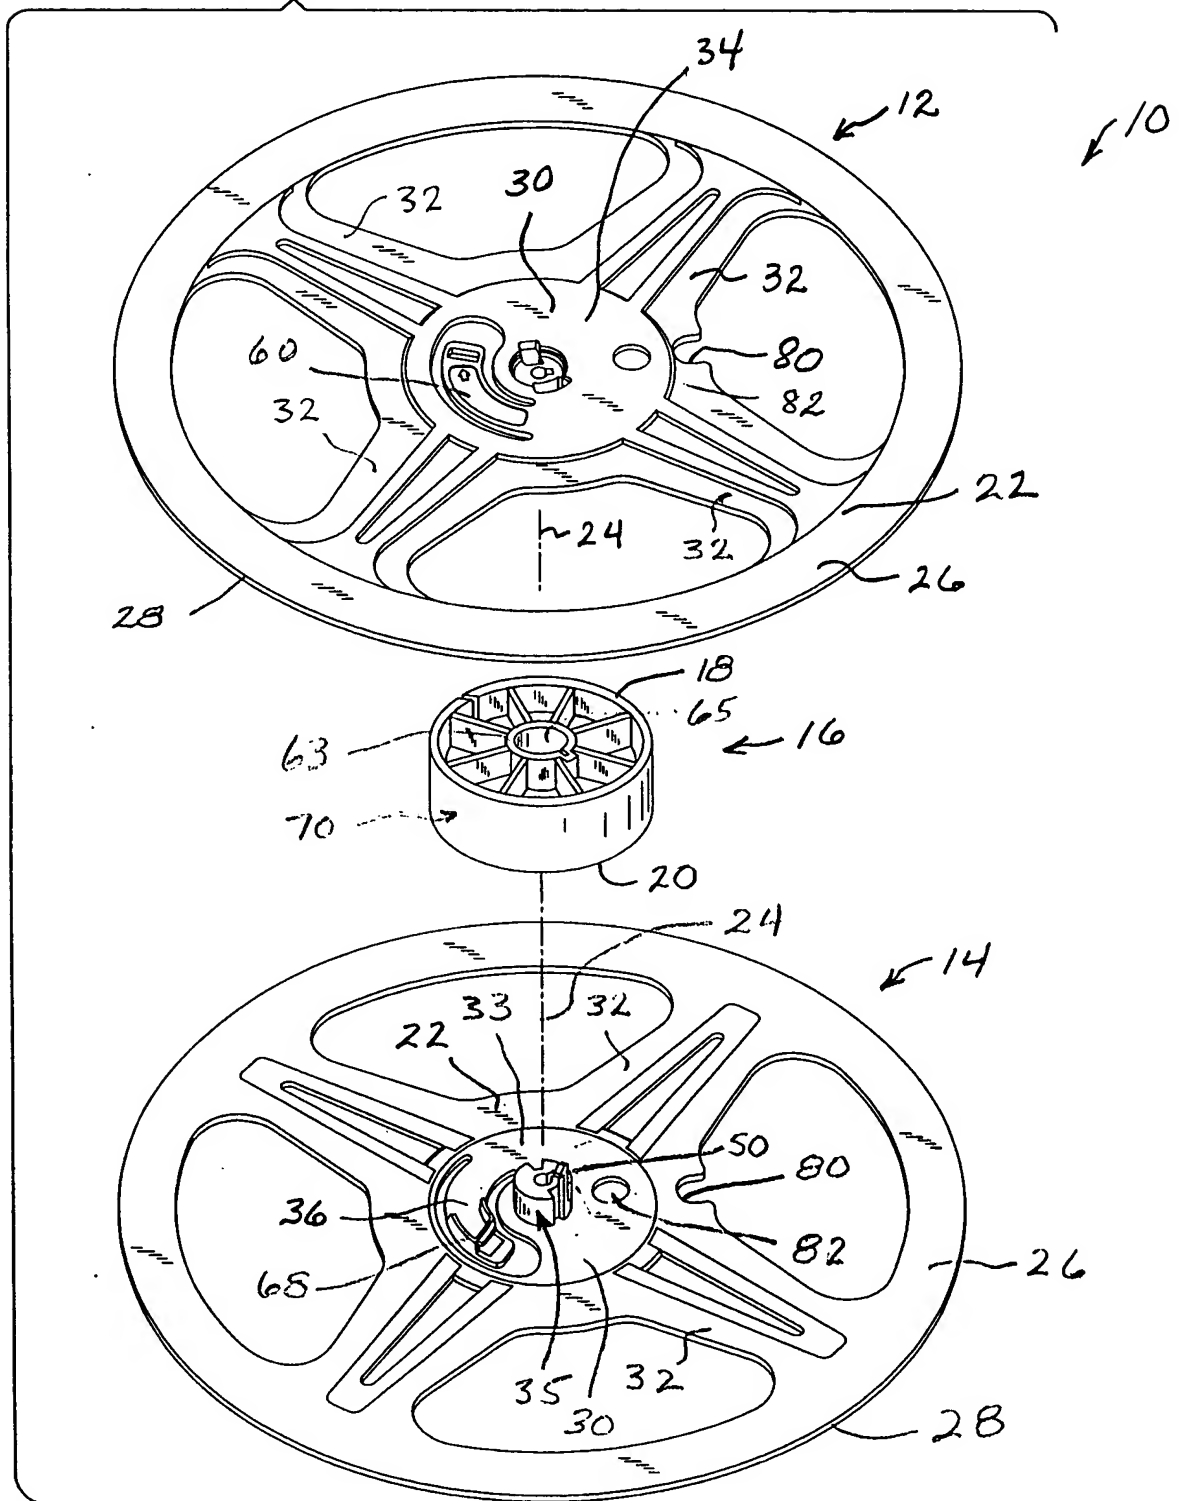

FIG. 1
FIG. 1 is a schematic diagram of a circular mechanical assembly, likely a turbine or compressor. The assembly consists of a central hub (50) with four vanes (52, 54, 56, 58) arranged radially. The hub is mounted on a central shaft (53). A casing (60) surrounds the hub, featuring a scalloped outer edge (32) and a dashed inner circle (30). The casing includes a central opening (35) and a curved section (61) with a scalloped edge (68). A component (64) is shown within the casing, and a dashed line (66) indicates a specific feature. The diagram is labeled with various numbers: 22, 30, 32, 33, 35, 37, 42, 50, 52, 54, 56, 58, 60, 61, 64, 66, 68, 80, and 82.